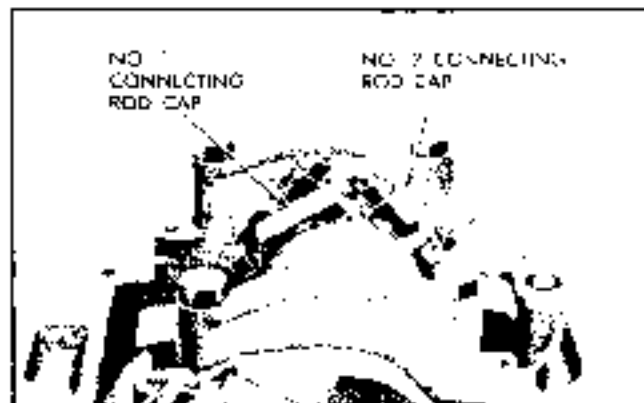

Fig. 6-111 Crankshaft Positioned for Removal of No. 1 and No. 7 Connecting Rod Caps
pin carrying bearing to be replaced straight down (Fig. 6-111).
3. Rotate crankshaft so crankpin carrying assembly to be replaced projects straight downward (Fig. 6-111).